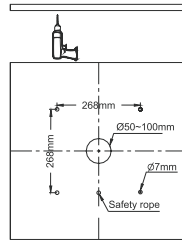

Figure 4
2. Use electric drill to set fixed holes through the ceiling (Figure 4).